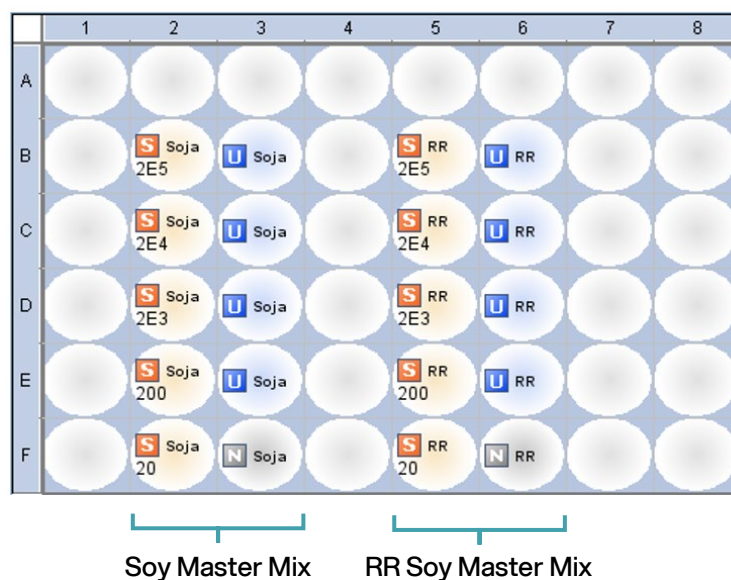

Figure 2. Proposed design analysis for 2 samples obtained from the same DNA extraction round.
05. Vortex and spin the 1.5 mL tubes and dispense 20 μ L per well or tube of 0.2 ml (see the example for three samples in figure 2).